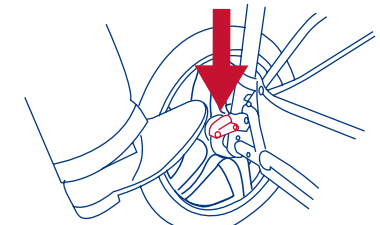

Fig. 12
12) • To engage brakes, apply downward pressure to the brake levers located on the rear axle. The stroller may require forward or rearward movement in order to engage the brake (Fig. 12). Check that the stroller will not move once the brakes are properly applied. To release, gently lift up on the brake levers.